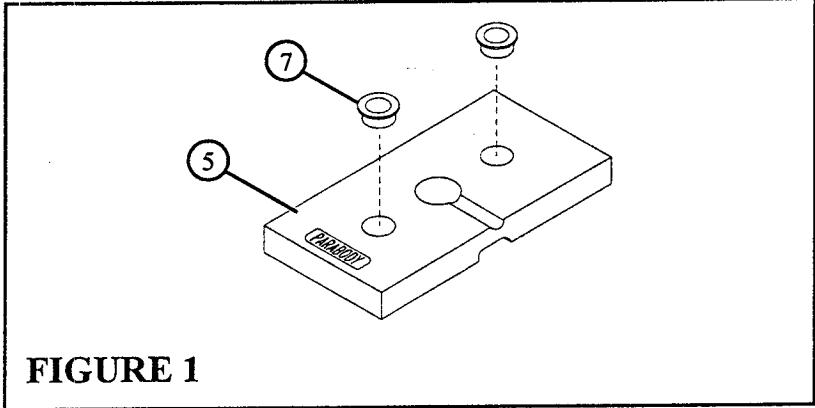

FIGURE 1
Snap two WEIGHT PLATE BUSHINGS (7) into the "PARABODY" side of all twenty WEIGHT PLATES (5) as shown in FIGURE 1.